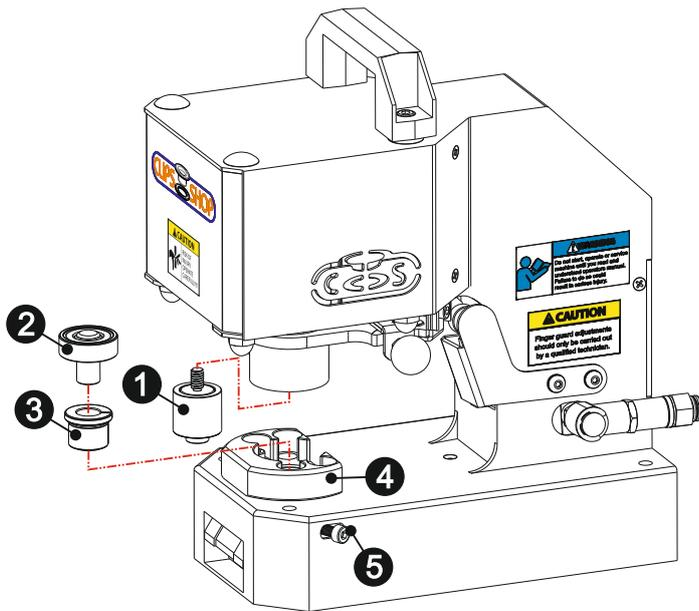

fig. 3
Make sure there is no air in the system. Attach the upper die ① to the upper die adaptor by manually rotating. Once the acrylic safety guard blocks, pull the manual starting mechanism downwards to access the upper die ① to securely fix it. Attach the lower die ② to the lower die holder ④ and securely fix the screw ⑤ to stabilize the position of the lower die (fig. 3).
**Note:** The die installation procedures may change depending on the type of die set you would like to use. i.e. In case of the need of the regular die installation, before locating the lower die ②, first attach the lower die bush ③ to the lower die holder ④. Please refer to the "Die and Accessories Compatibility Guide" and "Die Installation" sections for further information about the installation necessities of different type dies.